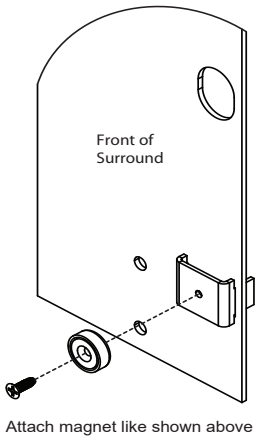

Figure 22.2
5. Secure the magnet to the bracket. The magnet is facing the front (**Figure 22.2**).